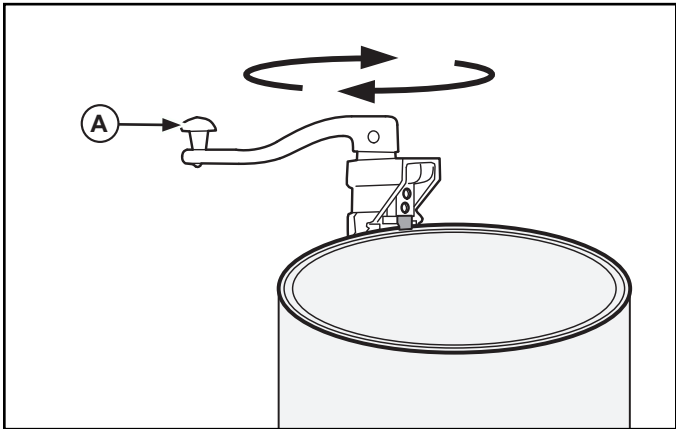

Figure 5. Rotating the Handle.
5. Crank the handle (A) in a clockwise direction to open the can. See Figure 5.